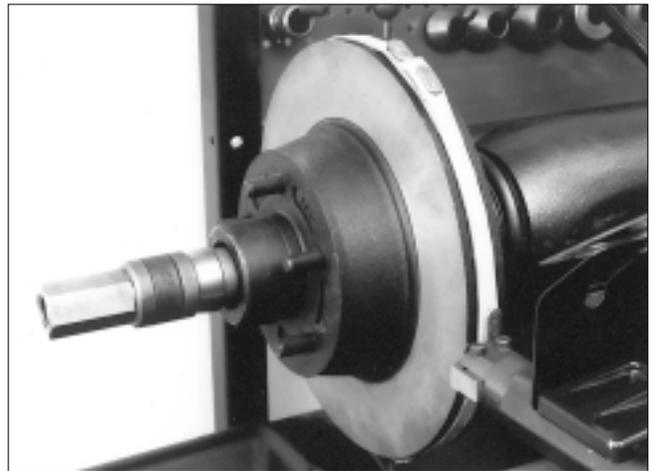

Figure 2
1. Install either a weighted silencer band (vented rotors), Fig. 2, or a non-weighted silencer band (non-vented rotors), or an optional friction rotor silencer to dampen vibrations during machining.